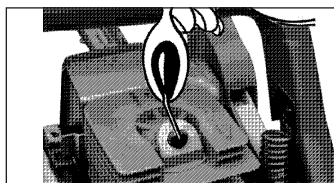

Fig. 22
5. Pour 1 teaspoon of clean 2-cycle oil into the combustion chamber. Pull starter rope slowly several times to coat internal components. Replace spark plug (Fig. 22).